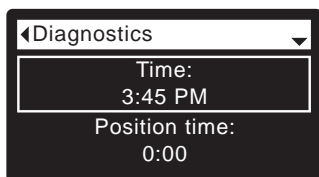

FIG. 92
8. Press the SELECT (O) button to display the Diagnostics screen (See Figure 92).
A clean nozzle & venturi (See Figure 92) is a necessity for the water filter to work properly. This small component creates the suction to aspirate (bring air into) the mineral tank during recharges. If it should become plugged with sand, silt, dirt, etc., the water filter will not work to remove iron from the water.